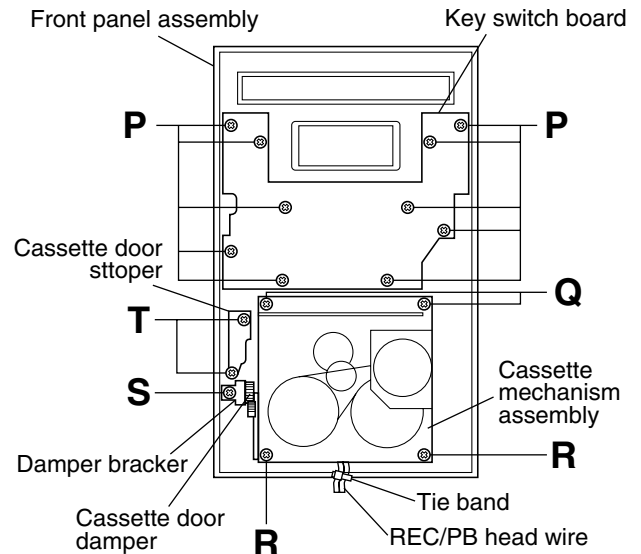

Fig. 19
(See Fig. 19.)
■ Removing the cassette door damper and cassette door stopper(See Fig. 19.)